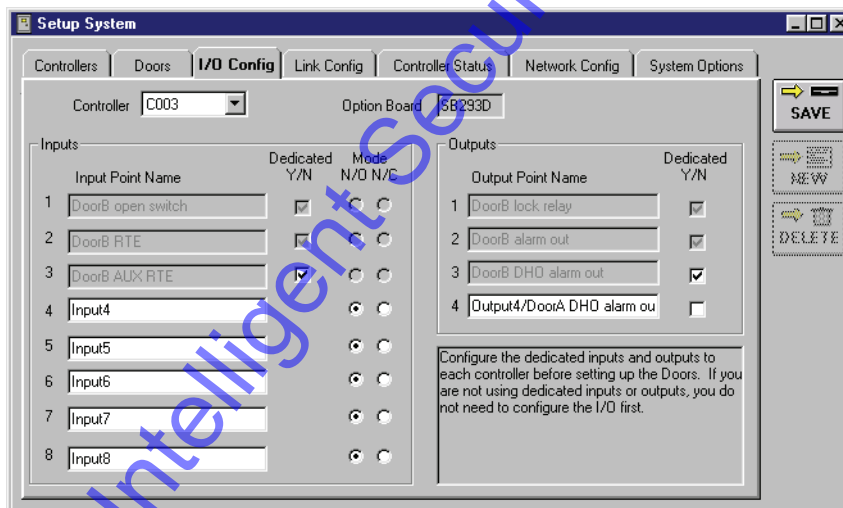

Figure 3-13: Dedicated Output Point
5. To configure point 3 as the Door-B DHO alarm output, click in the check box in the “Dedicated Y/N” column beside Output Point 3. When there is a check in the box, the point is dedicated (see Figure 3-13). The name changes to “DoorB DHO alarm out” to show the point has been dedicated. To return this point to a general purpose input, click in the check box again and remove the check mark.